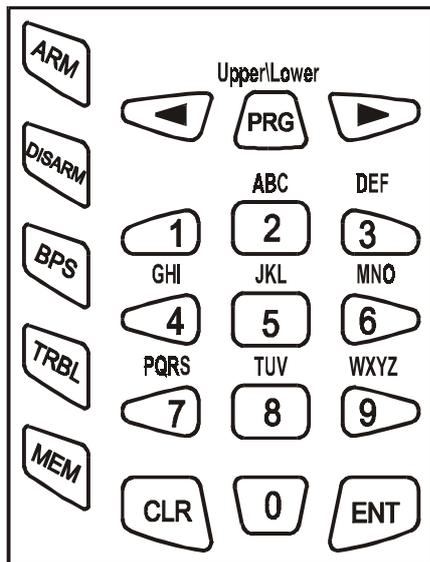

Fig. 1 LCD keypad
4. Fig. 1 shows LCD keys.
Both figures and letters can be keyed in. The letters and respective figure correspondence is shown in Fig. 1.